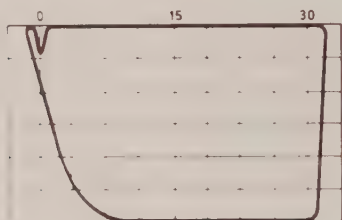

Fig. 4.1 Display for frequency range check
(2) Set the oscilloscope sensitivity to 0.5 V/cm and adjust the X-DRIVE LEVEL control so that the displayed waveform just fills the graticule. Adjust the OPTIMIZE BLANKING TRANSIENT control if necessary.
(3) Check that the zero break and the 30 MHz marker are visible on the display, as shown in Fig. 4.1.